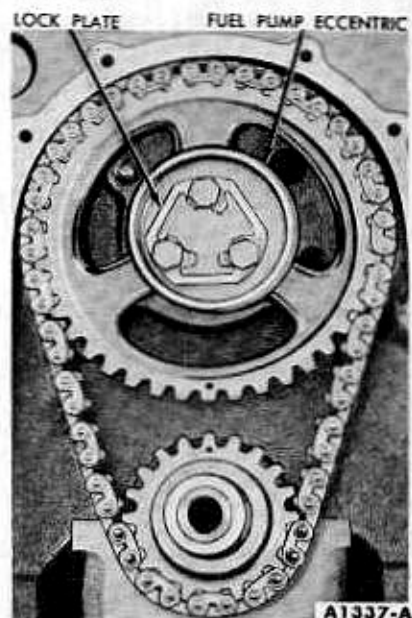

FIG. 41—Fuel Pump Eccentric Installed
7. Install the fuel pump eccentric, lock plate, and screws (Fig. 41). Install the crankshaft front oil slinger.